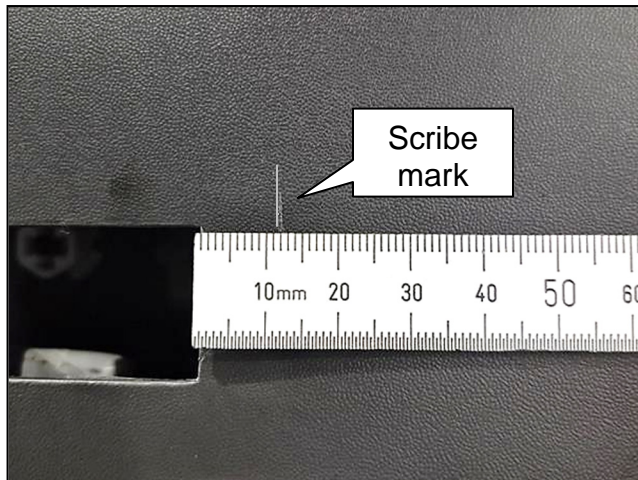
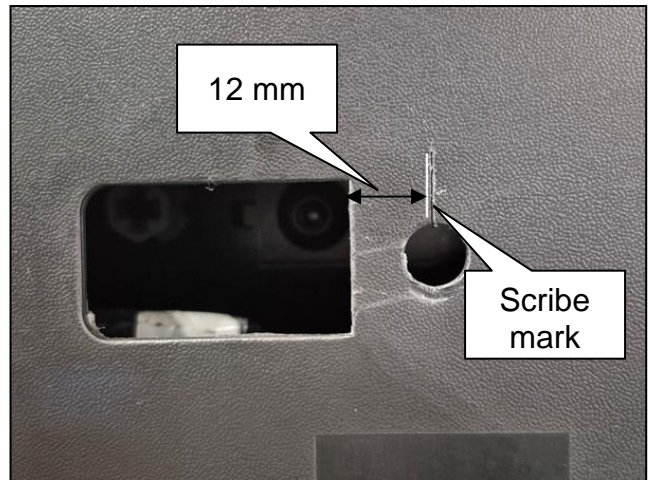

Figure 4
Figure 5
2. Measure 12 mm from the outboard edge of the square cut-out, and then make a vertical scribe mark above the existing hole, as shown in Figure 4 and Figure 5.